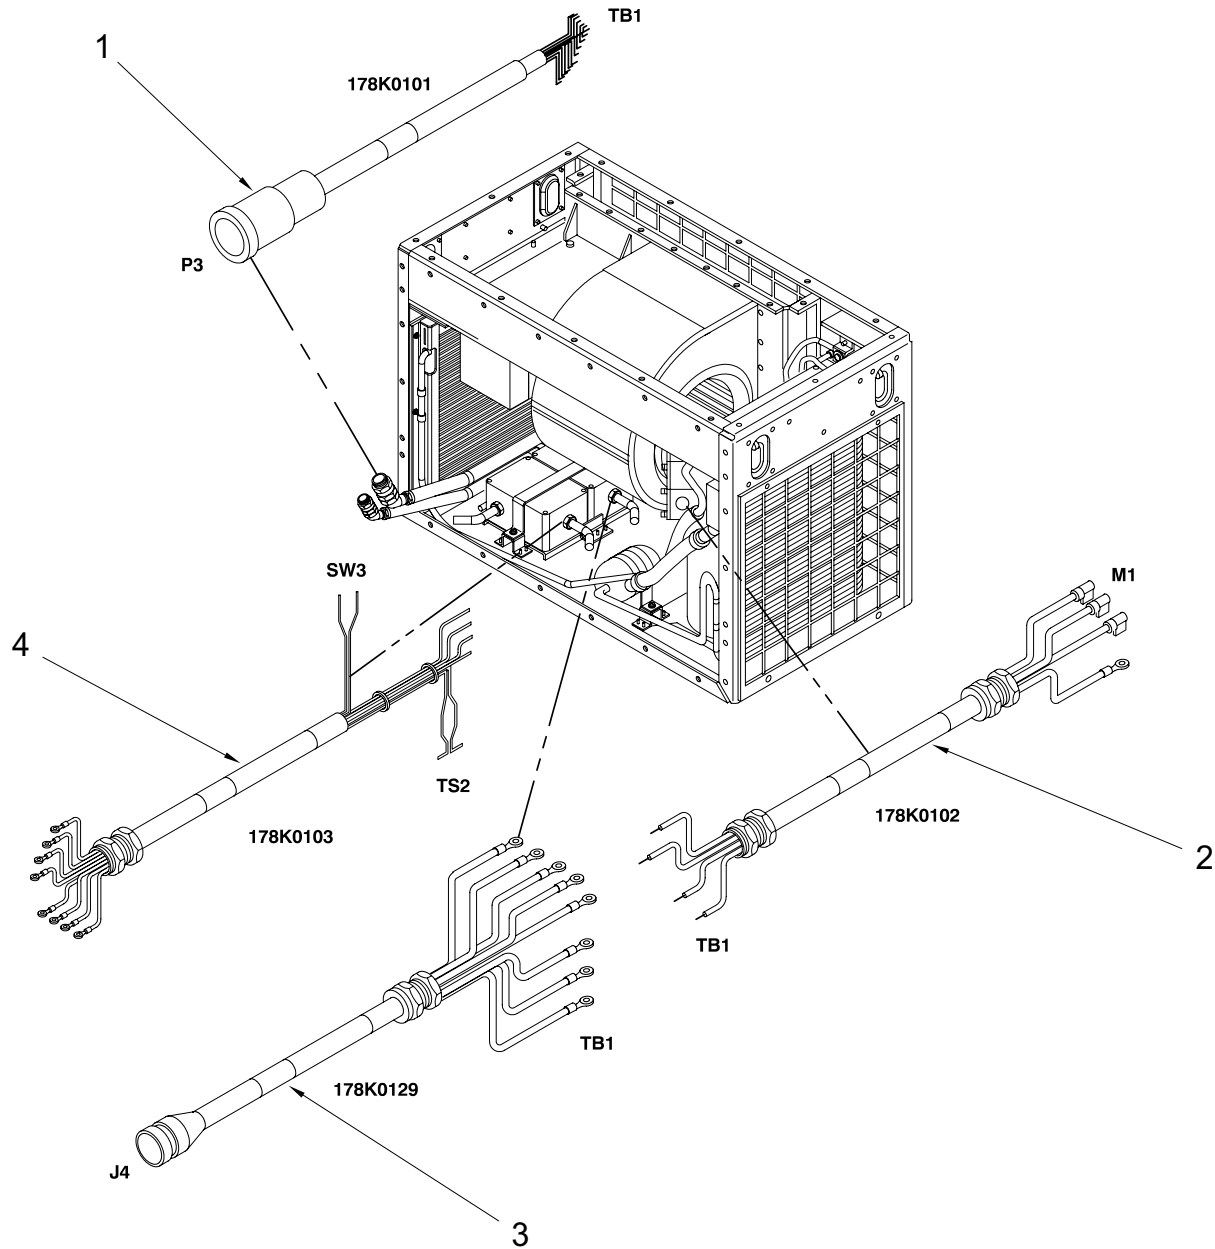

Figure 1. CONDENSER HARNESS ASSEMBLIES.
8. Tag and remove leads to terminal board TB1 - 1, 2 4, and 17. (See WP 0045 00, Figure 1).
9. To remove P10, P11, and P13 harness (2), disconnect P10 connector plug from compressor.